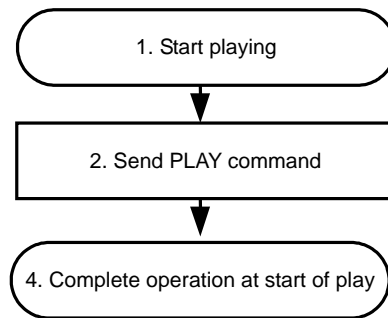

Figure V.2.7 Operation Flow at Start of Play
Figure V.2.7 shows the operation flow right before starting playing in the case of (2).